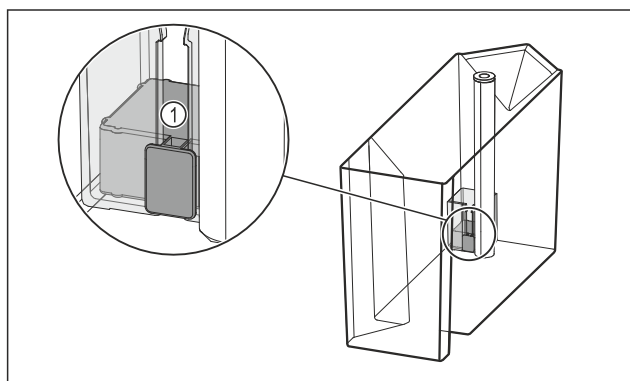

Fig. 165
- ▶ Check whether the float Fig. 165 (1) is jammed. If the float is jammed: